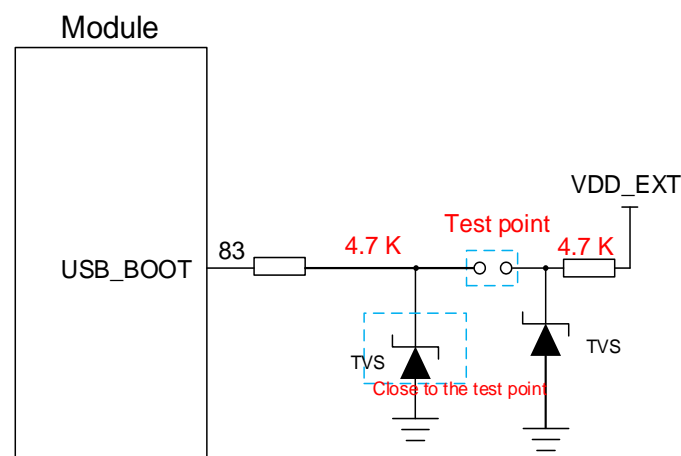

Figure 34: Reference Design of USB_BOOT Interface
2. When using MCU to control the module entering emergency download mode, follow the above timing. It is not recommended to pull up to 1.8 V before VBAT powers up. Connecting the test points as shown in **Figure 34** can manually force the module into emergency download mode.